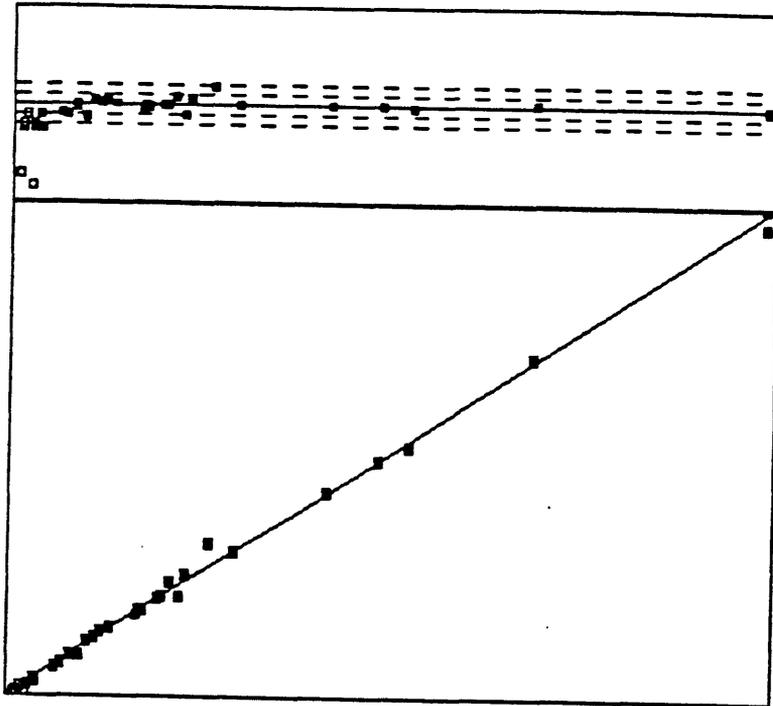

Figure 5. Example of a calibration curve established for Sr.
- 1) Inspect data for each analysis by pressing "Enter" when the ">" is adjacent to the *Inspect data option*. Data for the selected standard include: A) Sample name, B) Accepted and measured concentrations plotted on the "X" and "Y" coordinates respectively, C) Percent deviation of measured concentration from accepted value; this is displayed graphically on the horizontal deviation graph (fig. 5). The solid horizontal line in the middle of the graph represents a value where both measured and accepted values are equal. The two dashed horizontal lines above the solid line represent +10% and +20% or greater deviation of the measured value from the accepted value. The two dashed lines below the solid line show where measured analyses differed from accepted values by -10% and -20% or greater D) And 2  $\sigma$  standard deviation are displayed on the screen. Select subsequent analyses by pressing the "↑ ↓" keys. An analysis may be omitted from the fit by pressing "-" when the standard is highlighted on the graphic.
Choose a regression type and press "Enter". The "Filter ?" query will be displayed (filters are described in section 5.6). Press "Enter" and the regression is displayed in addition to the regression menu options (fig. 5). If the filter eliminates too many points to perform the calculation, an error results and the program returns to the first menu of the calibration routine (Solution-- lower the filter to a level, the absolute value of which, will contain enough data to perform the calculation). Return to the calculation by selecting the "Regression" option.